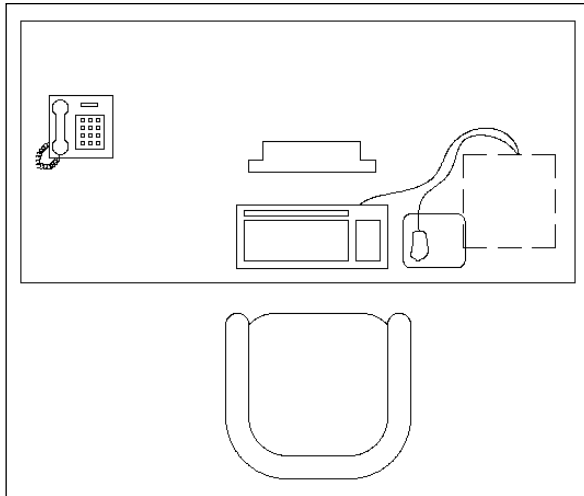

Figure 18-23: The office furniture is a block that can be more useful if they are dynamic.
1. Open `ab18-f.dwg` from the CD-ROM. This is a set of office furniture, as shown in Figure 18-23.